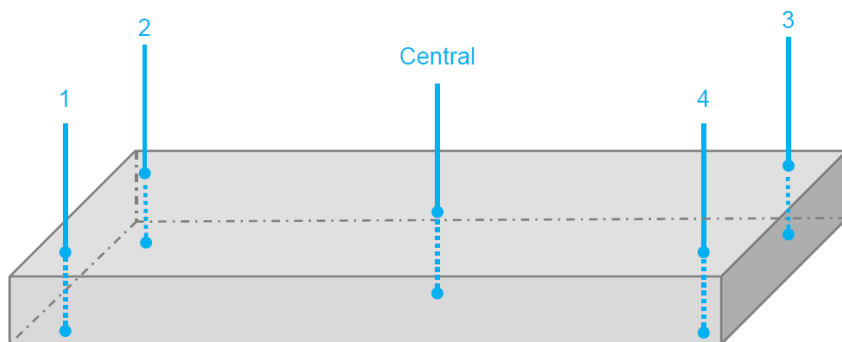

Figure 11. Central length with variation in length calibration includes the four corners of the gauge block, in addition to the central point.
- **Central length with variation in length** is when five measurements are taken at five different points on the gauge block (as seen in Figure 11). These points include a central measurement in addition to the four corners of the gauge block to ensure it is the correct length throughout, not just at the centre. This method is used for lower grade gauges where interferometry will not be used.